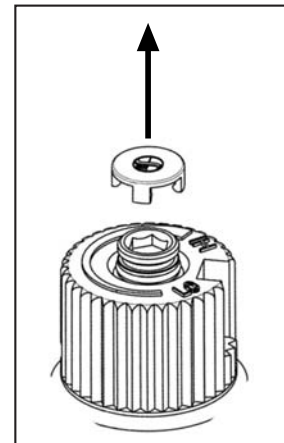

Figure 10: Removing valve cap.
- a) Remove the black protection cap from the HI/LO knob by hand shown in Figure 10.
- g) Re-attach the black protection cap that was removed in step a (Figure 10).